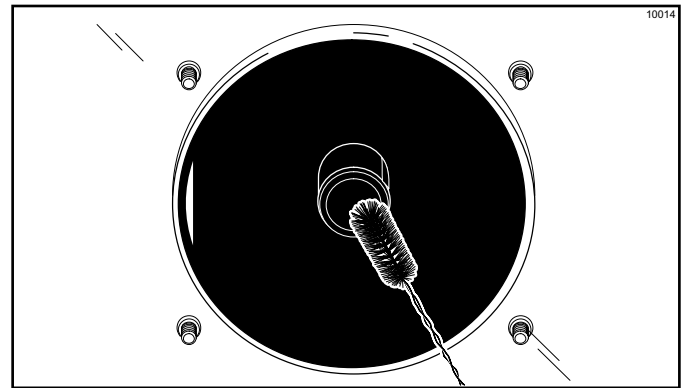

Figure 6-55
- Return to the freezer with a small amount of cleaning solution. Using the black brush, clean the rear shell bearing at the back of the freezing cylinder. (See Figure 6-55.)